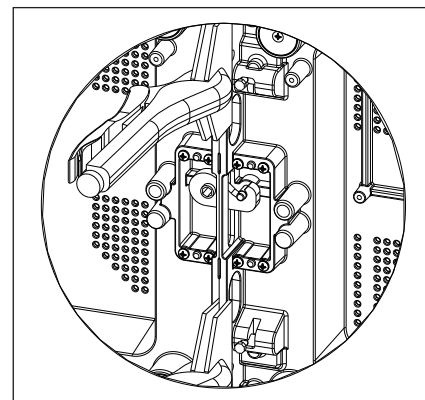

Figure 18: Engage Draw Latches
- Engage the draw latches. Refer to **Figure 18**.